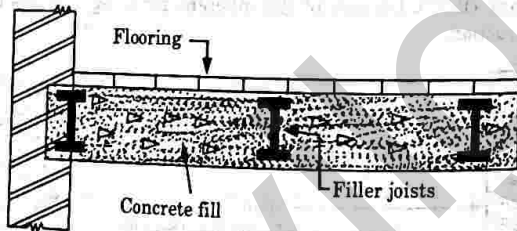

Fig. 3.19.5. Filler joists with cement concrete fill.
- i. This is a typical type of composite construction in which RSJ of small sections is placed in concrete, as shown in Fig. 3.19.5.